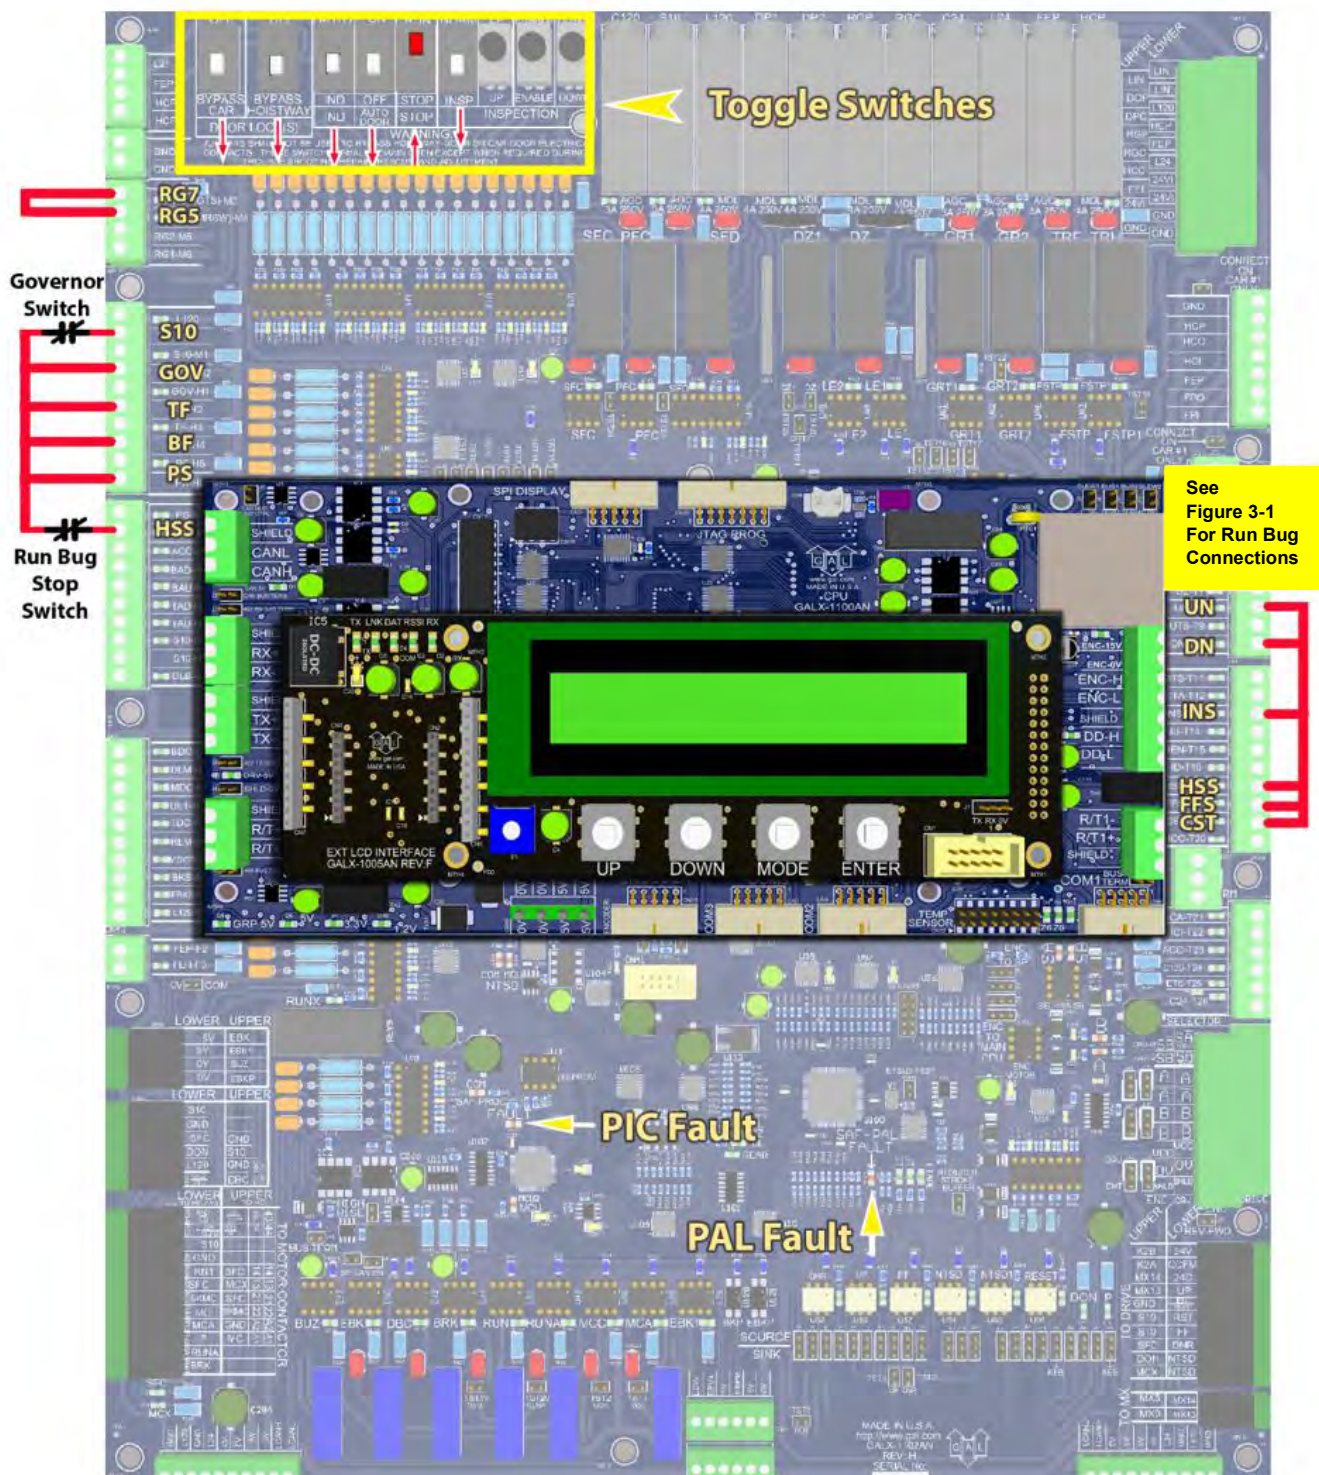

Figure 3-4: GALX-1102AN Main I/O
- 6) Set the toggles switches on the GALX-1102 Main I/O Board as show in Figure 3-4.
- 9) Verify the PIC and PAL fault LED's are off. See the GALX-1102AN Main I/O Board in Figure 3-4. If these LED's are on, refer to Section 04 Troubleshooting.